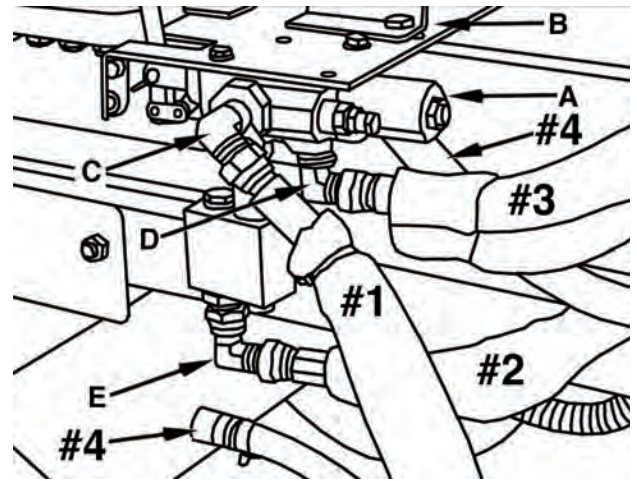
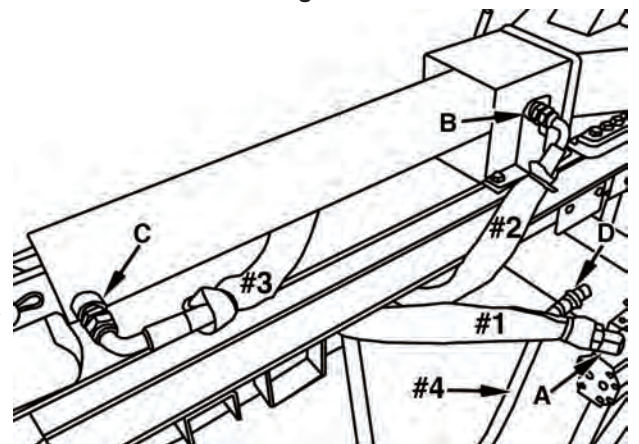

Figure 9
Figure 10
- 1) First install the control valve/control lever assembly (A) Fig.9 to the beam mounting plate (B) using 2 hex. bolts.
- 2) Install the fitting (C) Fig.9 to the side port of the control valve.
- 3) Install the fitting (D) Fig.9 to the port underneath the control valve.
- 4) Install the fitting (E) Fig.9 to the lowest port underneath the control valve.
- 5) Thread the hose (#1) Fig.9 to the fitting (C) Fig.9 and thread the other end of hose (#1) Fig.10 to the fitting (A) Fig.10 on top of the pump.
- 6) Thread the hose (#2) to the fitting (E) Fig.9 and thread the other end of hose (#2) to the fitting (B) Fig.10 at the front of the cylinder.
- 7) Thread the hose (#3) Fig.9 (the shortest hose with fittings) to the fitting (D) Fig.9 and thread the other end of hose (#3) Fig.10 to the fitting (C) Fig.10 at the rear of the cylinder.
- 8) Slide the return hose (#4) Fig.9 & Fig.10 onto the return valve fitting (D) Fig.10 on the axle/tank and slide the other end of hose (#4) Fig.9 onto the return valve fitting at the rear of the control valve. Secure both ends of the hose by tightening the hose clamps.